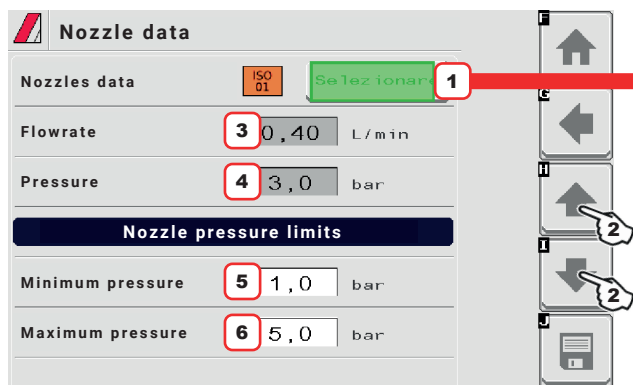
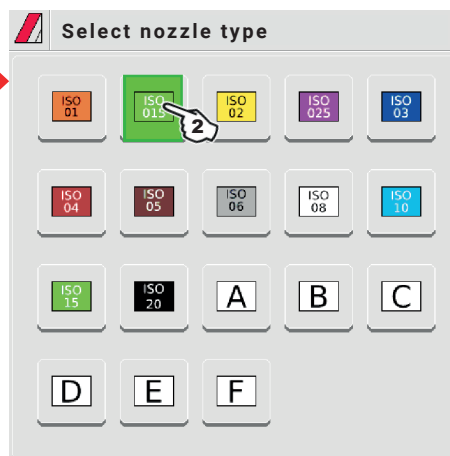

Fig. 11
Fig. 12
- 1 - 2** Select the nozzle to be set (Fig. 11 / Fig. 12); enter the characteristics (Fig. 11).